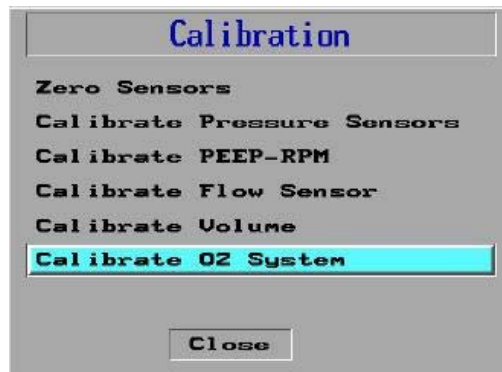

Figure 152: Calibration Screen
3. Select **Calibration**. The **Calibration** screen is displayed (Figure 152).